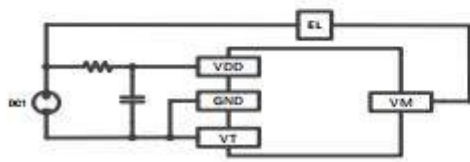

Figure6-3
a. According to the figure6-3, connect the DC1 power supply to the B + and GND pins of the system board and set the voltage to about 3.0V/3.6V/4.2V. Connect the electronic load from B + to VM and observe the waveform.